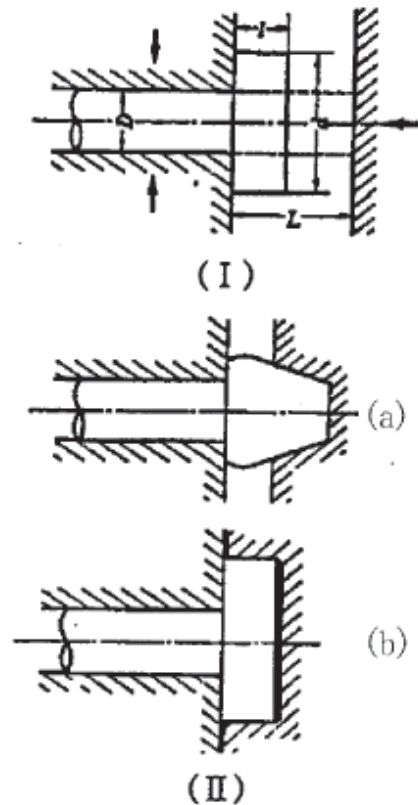

Fig 4. Head making upsetting
**(3) Upset forging** Forging that compresses the material in the axial direction. The head-forming process for screws, bolts, rivets, etc. is typical.
As shown in Fig. 4, if the material is held for a length  $L$  from the die hole and swung by tapping its head, it will buckle and fold if  $L$  is not less than about 2.5 times the material diameter  $D$ . If  $L/D$  is more than 3 times, double step as shown in (II). The application limit of multi-stage is as follows.